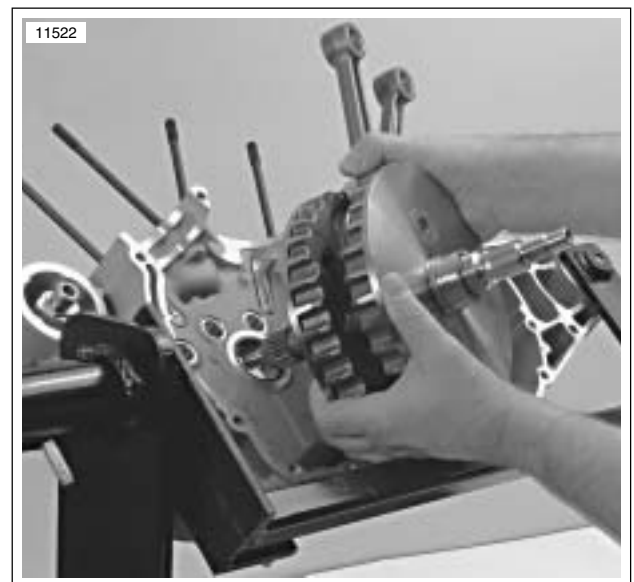

Figure 6-72. Installing Flywheel Assembly In Right Crankcase
2. See Figure 6-72. Install flywheel assembly into right crankcase half.